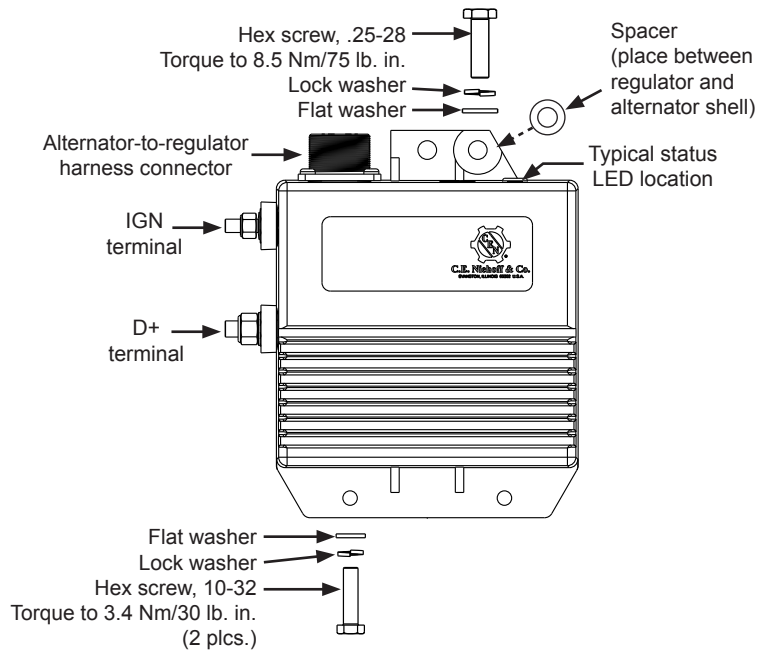

Figure 5: Typical Regulator Connections
2. Mount regulator on alternator with included hardware and spacer as shown in Figure 5.
3. Securely plug alternator-to-regulator harness into receptacle on regulator. See Figure 5 for receptacle location.
- **IGN terminal** (required) must receive voltage from vehicle switched DC ignition source or multiplex in order to energize regulator. Torque to 3.4 Nm/30 lb. in. See Figure 5.
• **D+ terminal** (if required) provides DC system battery voltage to vehicle (5A maximum) for charge indicator lamp, relay, or multiplex while alternator is producing output. Torque terminal hardware to 3.4 Nm/30 lb. in. See Figure 5.